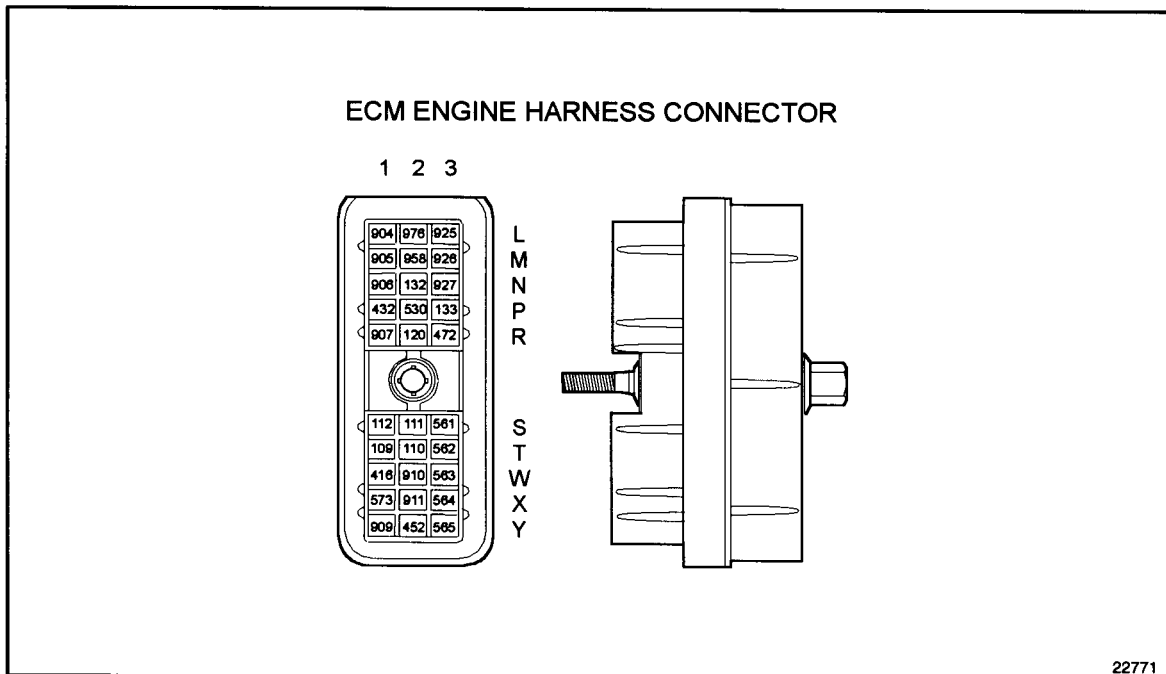

Figure 33-4 ECM Engine Harness Connector
3. Disconnect the engine harness connector at the ECM. See Figure 33-4.